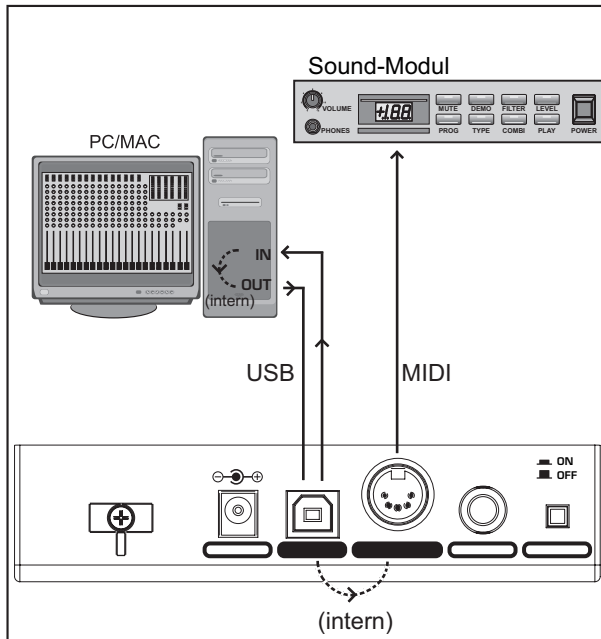

Fig. 2.1: Block diagram of MIDI signal flow
- ▲ You use the preset controller configuration set in the factory (see fig. 2.1). In this case, you only need to make the assignments on the receiving device.
When the UMX is linked via USB to a computer, the signal flow is as shown below (fig. 2.1).